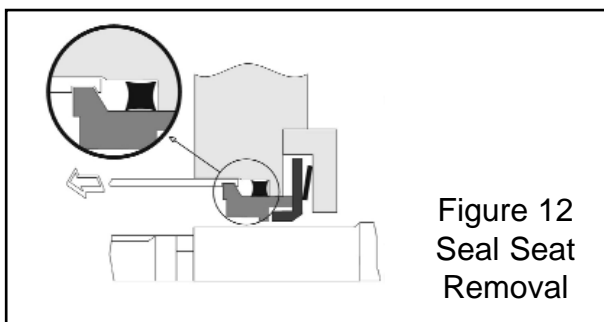

Figure 12
a) Carefully remove the static seal seats (80) from their bores in the rotor case (51), by inserting the special seal removal tool (182) carefully between the outside diameter of each seal seat and the bore in the rotor case. Push back the joint ring with the end of the tool and rotate the tool by 90 degrees, until the hooked end locks in position behind the seal seat. Working the tool gently around the circumference of the seal, carefully pull the seal face out. (See figure 12) Take great care not to scratch or damage the smooth face of the seal. Keep each seal with its respective shaft to ensure correct mating of the seal faces on re-assembly.
b) The joint ring (83) may come out with the seal face. If not, then remove it from the rotorcase bore and keep it together with the seal face. You may wish to label the components.